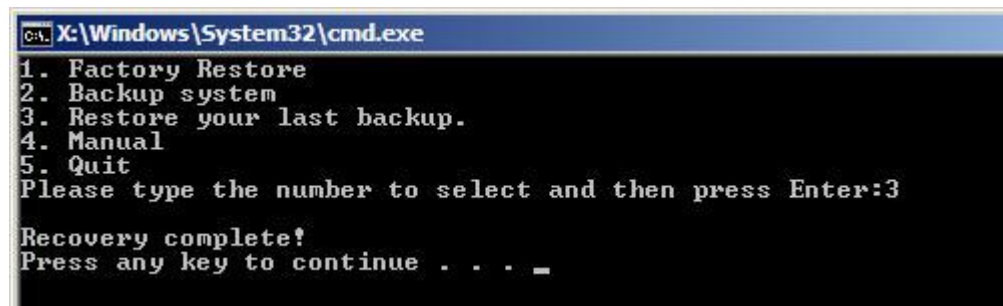

Figure B-32: Restore System Backup Complete Window
Step 3: The screen is shown as in **Figure B-32** when backup recovery is completed. Press any key to reboot the system.